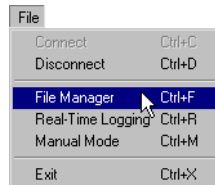

Figure 4-3. File->File Manager
4. Click **File->File Manager** (Figure 4-3).
4. Click **File->File Manager** (See Figure 4-3 on page 111.)